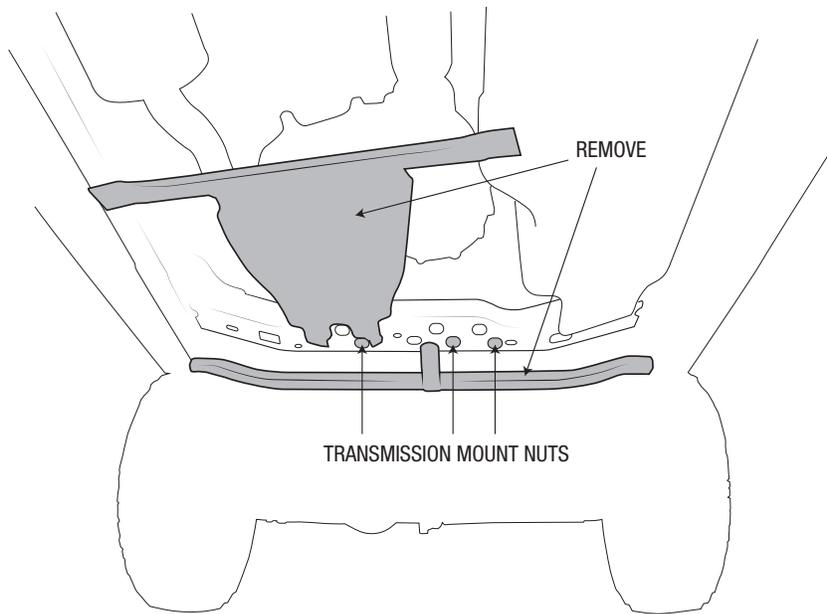

Figure 7
- 22. Remove the transmission and transfer case skid plates (fig 7).
- 23. Remove the three (3) transmission mount nuts (fig 7).